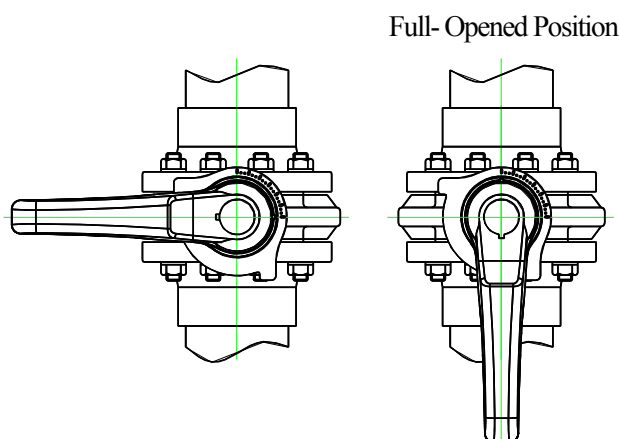

Fig. 7 – 1
- 2) In case of lever type (80-200 mm {3"-8"}), the direction of handle is same as the disc as shown in Fig. 7 – 1.